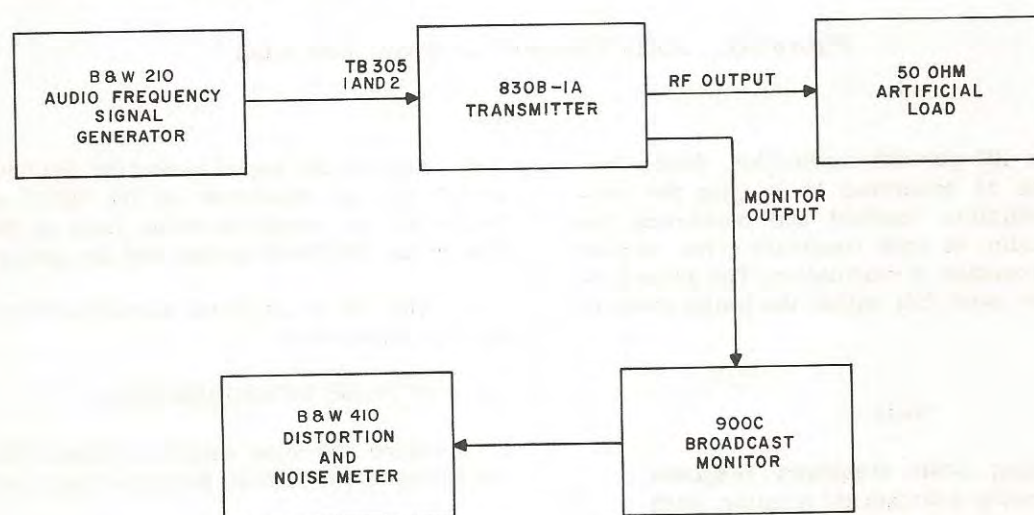

Figure 5-1. Distortion Test Setup
a. Refer to figure 5-1. Connect an audio frequency signal generator, such as a Barker & Williamson Model 210, to the exciter audio input, terminals 1 and 2 of TB305. (Disconnect the station console audio input leads when making this connection.) Connect a distortion and noise meter, such as a Barker & Williamson Model 410, to the broadcast monitor. Connect a